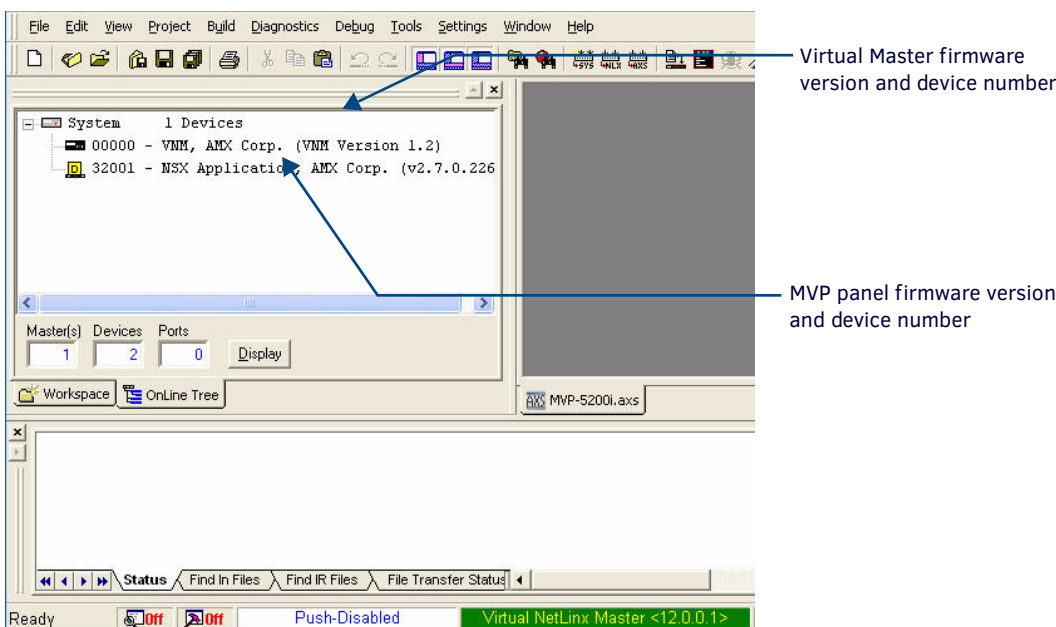

FIG. 106 NetLinX Workspace window (showing panel connection via a Virtual NetLinX Master)
3. After the *Communication Verification* dialog window verifies active communication between the Virtual Master and the panel, click the **OnLine Tree** tab in the Workspace window (FIG. 106) to view the devices on the Virtual System. *The default System value is 1.*
4. Right-click on the System entry (FIG. 106) and select **Refresh System** to re-populate the list. Verify the panel appears in the **OnLine Tree** tab of the Workspace window.